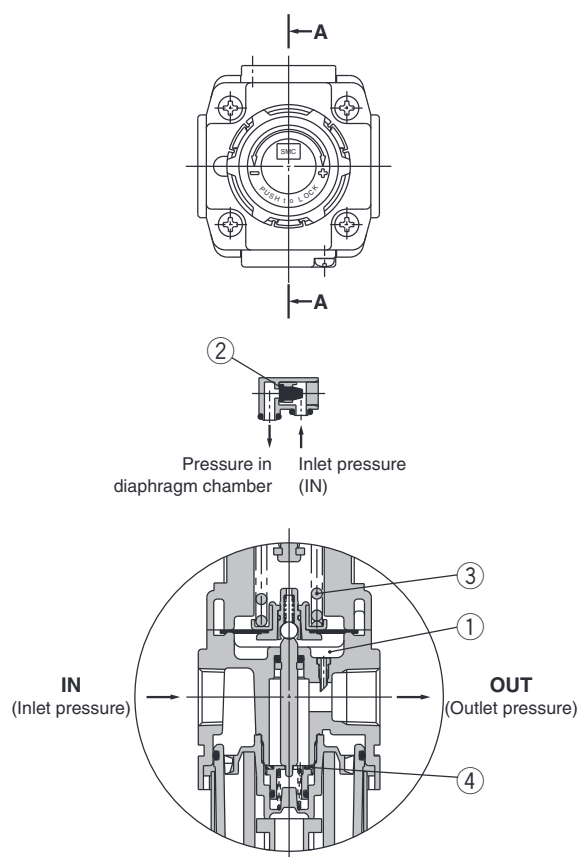
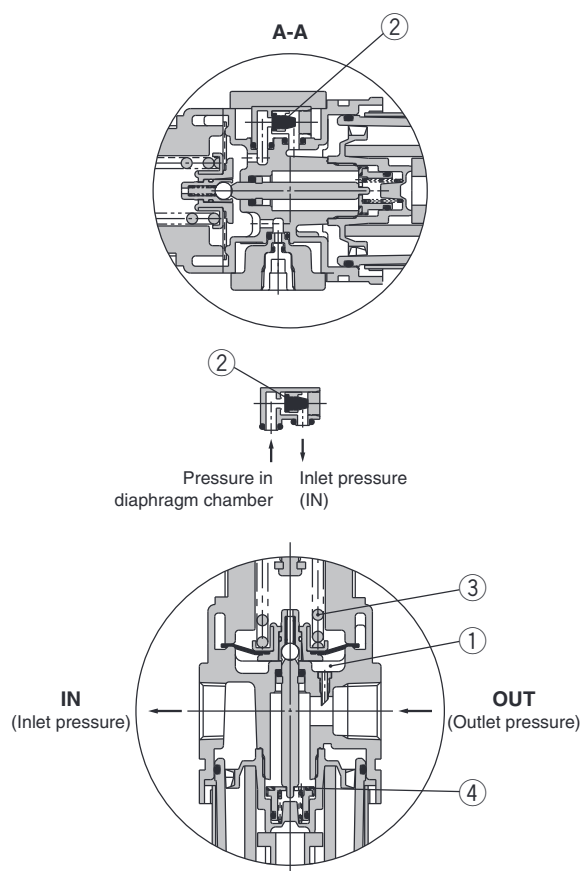

Figure 1 Normal
Figure 2 Backflow
When the inlet pressure is higher than the regulating pressure, the check valve ② closes and operates as a normal regulator (Figure 1). When the inlet pressure is shut off and released, the check valve ② opens and the pressure in the diaphragm chamber ① is released into the inlet side (Figure 2). This lowers the pressure in the diaphragm chamber ① and the force generated by the spring ③ lifts the diaphragm. The valve ④ opens through the stem, and the outlet pressure is released to the inlet side (Figure 2).